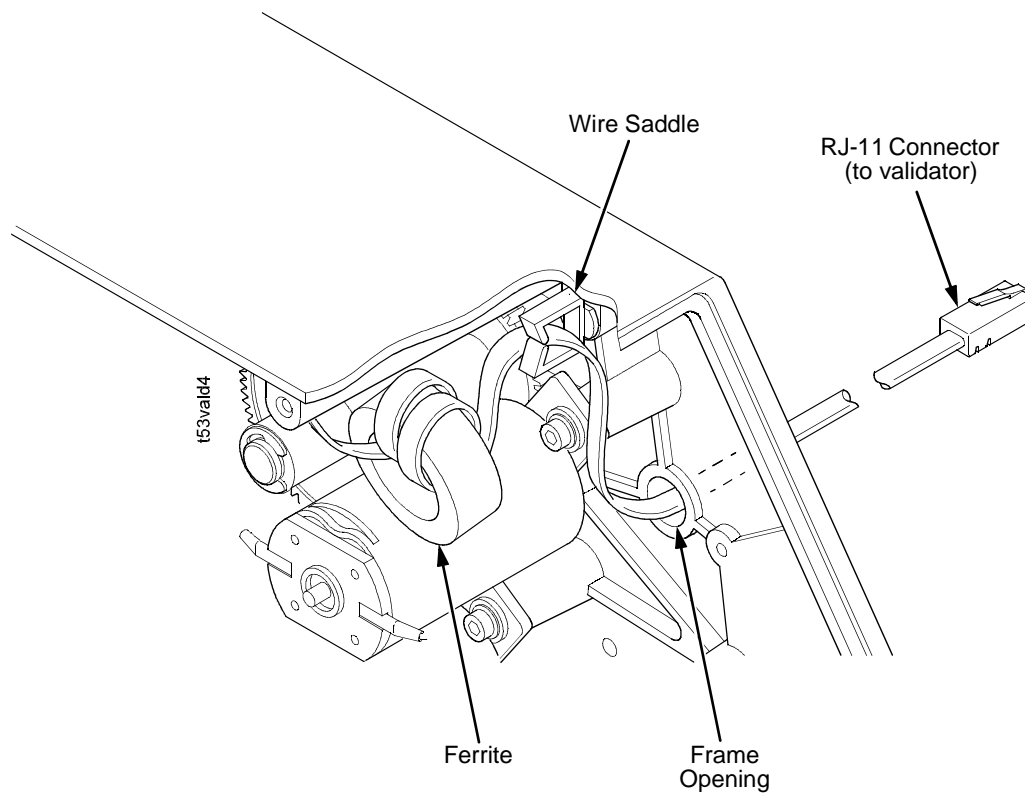

Figure 5. Inserting the Power/Data Cable Through the Hole in the Frame Wall
8. On the electronics side of the printer, push the RJ-11 connector end of the power/data cable through the frame opening. (Figure 5.)